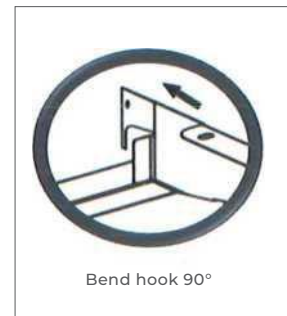

FIGURE 2
- B)** Bend the end of the hook to the right 90°. (Figure 2)